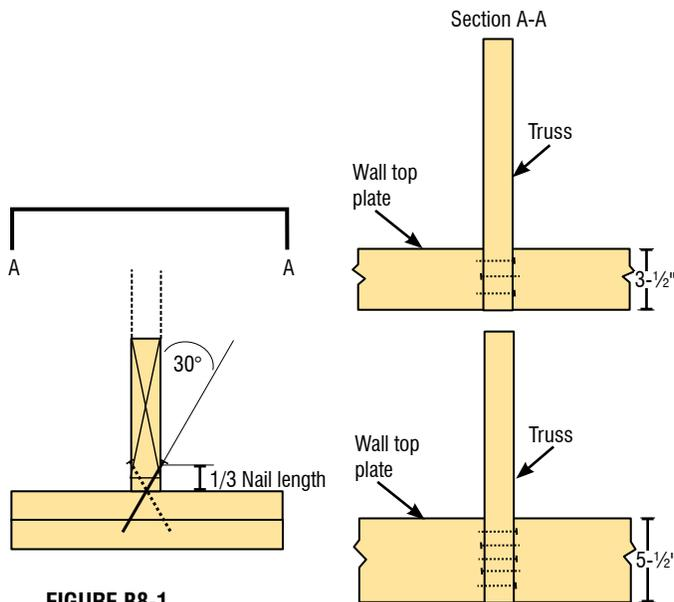

FIGURE B8-1
To get the most out of a Toe-nailed Connection, it is important to Toe-nail correctly. Figure B8-1 illustrates proper Toe-nailing of a Truss to the wood top plates of a bearing wall. The dimensions shown are only meant to serve as an approximate guide. Toe-nailing through a Metal Connector Plate of a Truss does not adversely affect the uplift capacity of the Connection, provided the Truss Plate and lumber are not damaged during installation.
- ✔ When installing Toe-nails, use care to avoid splitting the wood. The Building Designer typically provides nail spacing and minimum end and edge distances. In lieu of such guidance, a well accepted rule is to limit the total number of Toe-nails to three (total, including both sides) for full bearing on a 2x4 top plate (i.e., 3-1/2") and five (total, including both sides) for full bearing on a 2x6 top plate (i.e., 5-1/2") (see Figure B8-1). When using Toe-nails to attach the Top or Bottom Chord of a Truss to the side of a Girder Truss or wood beam, the number of nails used is generally limited to a maximum of three Toe-nails for 2x4 chords and four Toe-nails for 2x6 chords.
Table B8-1 provides the uplift and lateral Load capacities of Toe-nailed Connections consisting of three, four or five nails for various types of nails and species of wood. The table assumes the nails are installed a distance of either L/3 (i.e., length of nail divided by 3) or 1-1/8" from the top surface of the plate (support) (Figure B8-1, page 63). The values listed are for normal Load duration and are permitted to be multiplied by the Load duration factor (Table B8-2, page 66) appropriate for the specific application.